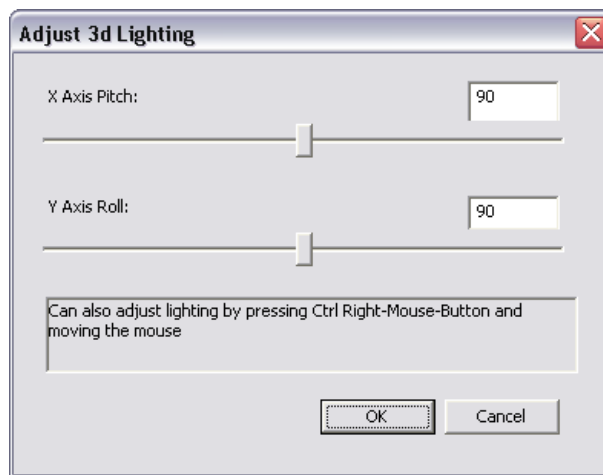

Figure 4.6c: The Adjust 3D Lighting dialog
- **3D Lighting Parameters** - Clicking this button opens the **Adjust 3D Lighting** dialog box, shown in Figure 4.6c, that allows you to change the incident angle of the lighting by dragging the slider controls or entering the angles in the boxes. You may also adjust the angle of the light by pressing Ctrl and the Right Mouse button and then moving the mouse.